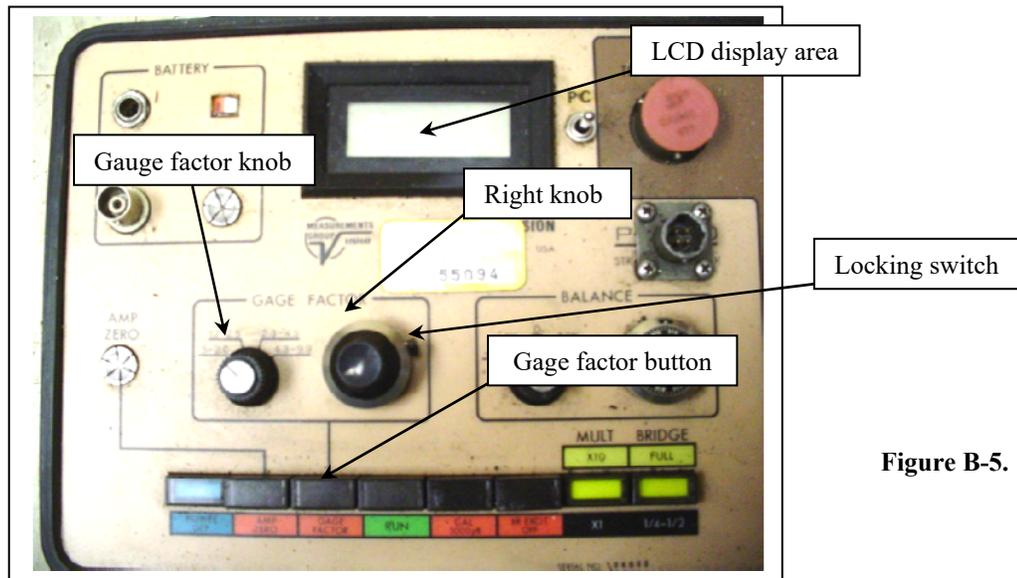

Figure B-5.
6. Push the “gauge factor” button; check gauge factor knob on the left of the gauge factor square to ensure the gauge factor range is properly set. Use the right knob in the same square to adjust to the correct gauge factor (GF) in the display LCD area. Keep in mind that this button has a locking switch, move switch counter clockwise to unlock before adjusting (Figure B-5).